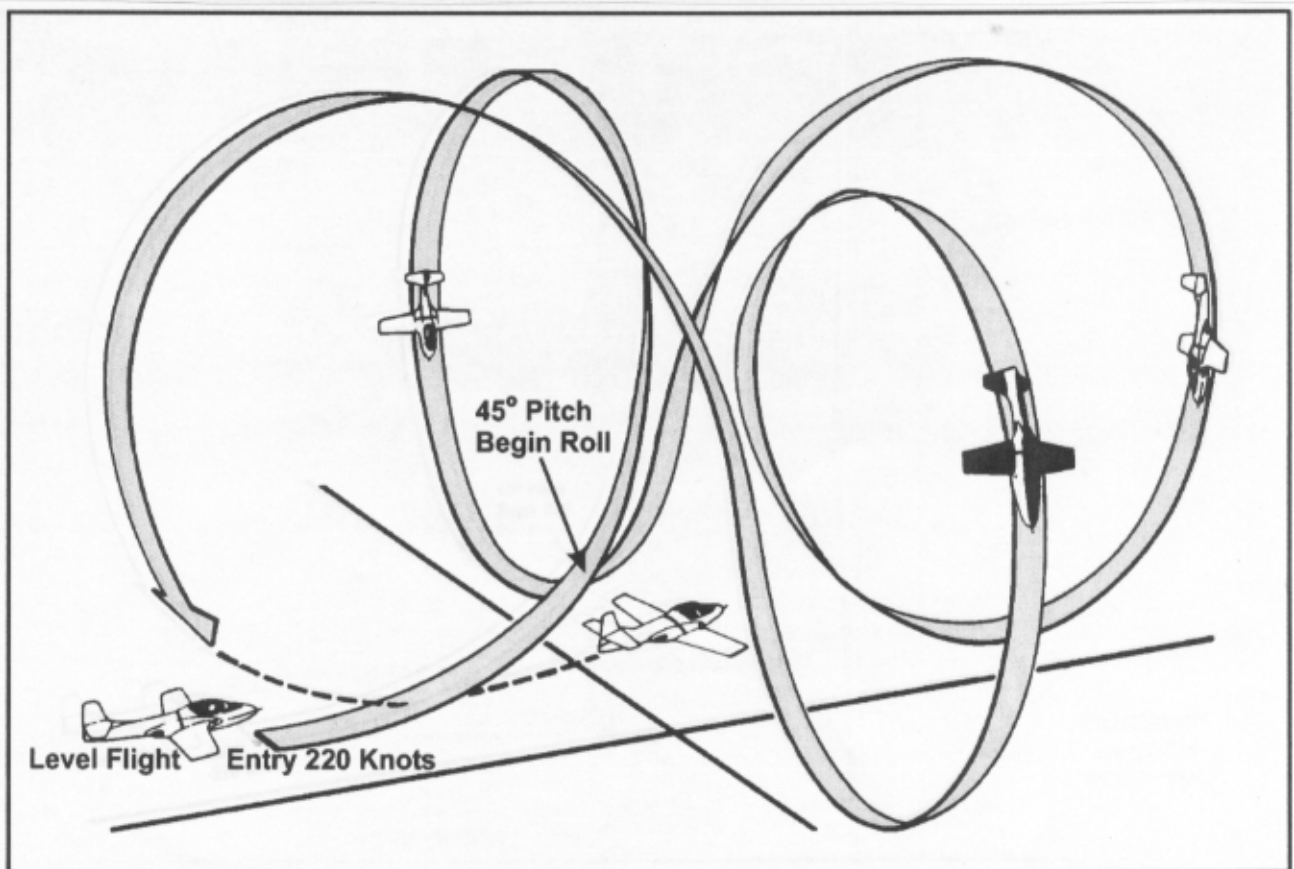

Figure 5.8. Cloverleaf.
5.21. Cloverleaf. The cloverleaf is composed of four identical maneuvers, each begun 90° from the preceding one (figure 5.8). The top part of this maneuver is similar to the recovery from vertical flight. The lower part resembles a loop. This maneuver will help develop your timing, planning, and coordination, using outside reference.